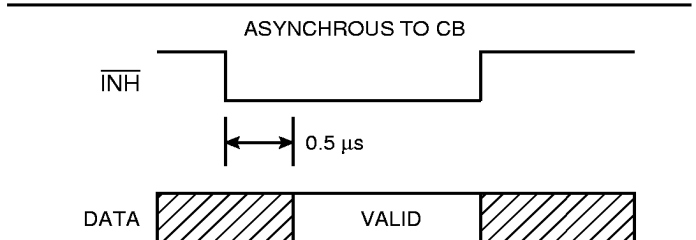

FIGURE 9. INHIBIT TIMING DIAGRAM
When an Inhibit ( $\overline{INH}$ ) input is applied to the SD-14595/96/97, the Output Transparent Latch is locked causing the output data bits to remain stable while data is being transferred (see FIGURE 9). The output data bits are stable 0.5  $\mu$ s after  $\overline{INH}$  goes to logic 0.
An  $\overline{INH}$  input, regardless of its duration, does not affect the converter update. A simple method of interfacing to a computer asynchronous to CB is: (1) Apply  $\overline{INH}$ ; (2) Wait 0.5  $\mu$ s min; (3) Transfer the data; (4) Release  $\overline{INH}$  (see FIGURE 9).